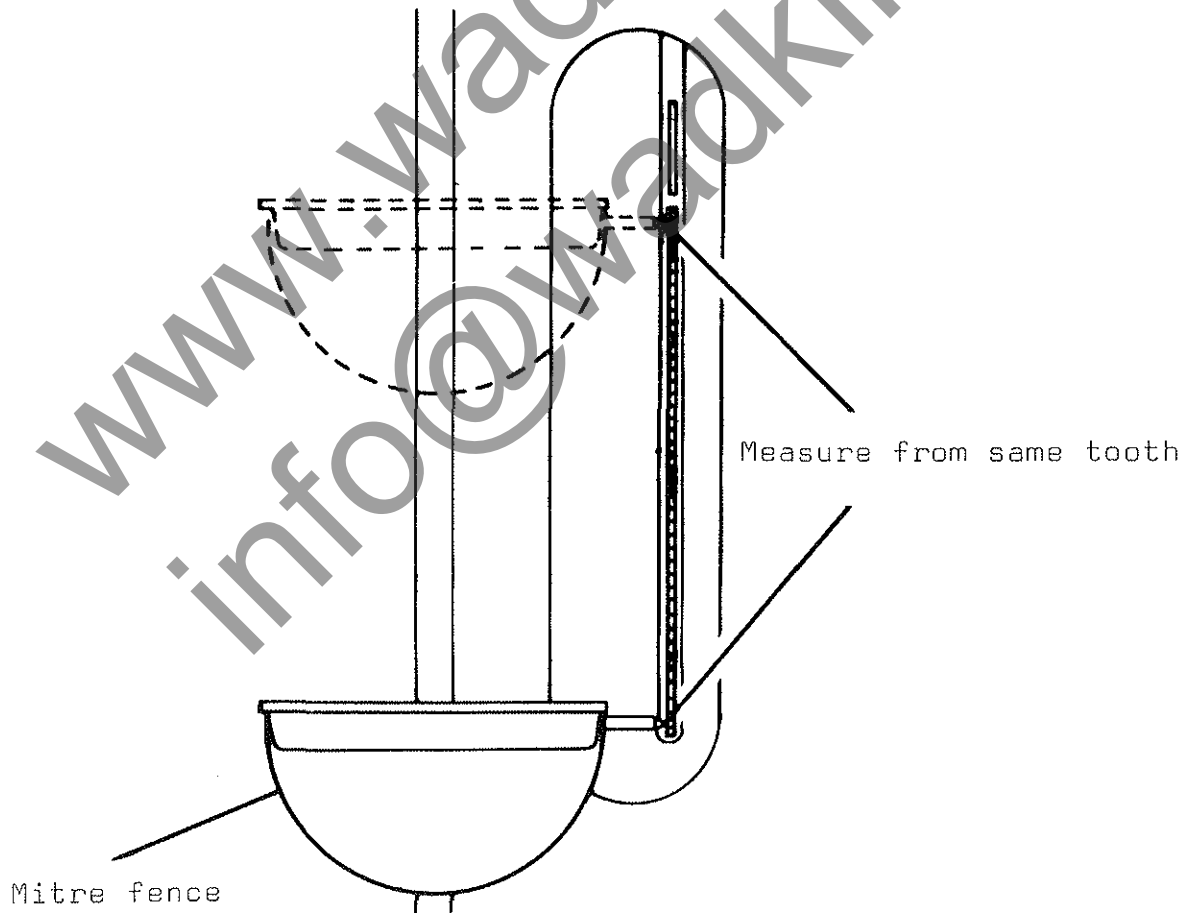

FIG.38
- 3) With the saw fitted to arbor, select a tooth and position straight stop rod of mitre fence so that it just touches the saw as shown in FIG.38.
- 4) Slide mitre fence to rear position of the saw, swing tooth of saw which was used in item 2. Check whether the stop rod touches the tooth by the same amount. Should the slot be out of alignment with the saw, position table until correct. The correct position of the saw in relation to the table insert slot is 25.4mm (1") from the right hand side. This will ensure clearance on the table insert when the saw is canted. When set, tighten all screws.